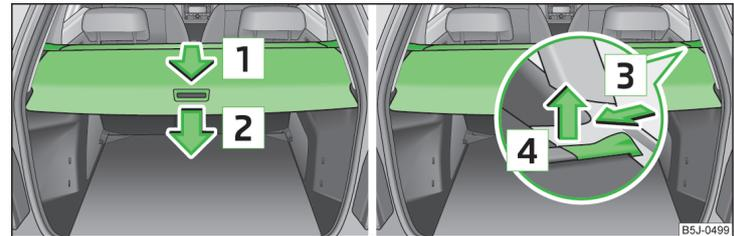

Fig. 66 Boot: foldable boot cover/removing foldable boot cover
- Pull the retractable luggage compartment cover in direction of arrow [1] » Fig. 66 as far as the stop into the secured position.